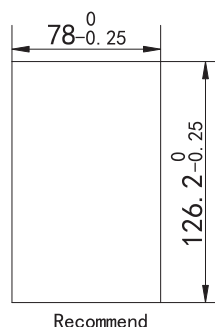

Figure 6.2b) Figure of supporting board installation (cabinet door cut-out)
6.4.4 Figure 6.2b): Dimension drawing of supporting board installation i.e. cabinet door cut-out. The supporting board (including operation panel) can be installed on the cabinet door.